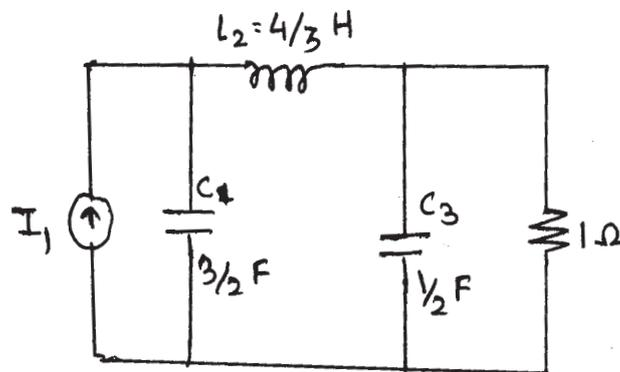

Fig 4 Q 7(c)
- c) A LPF is shown in figure 4. Convert this filter into a HPF with cut off frequency of 10^6 rad/s and impedance of 500Ω . [6]